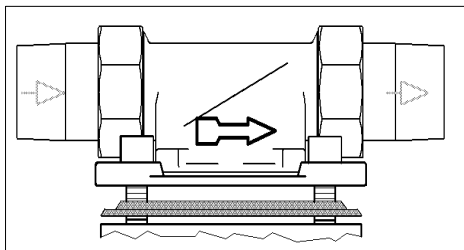

Fig. 1: Built-in rotary flange
- Direction of flow (see Fig. 1)